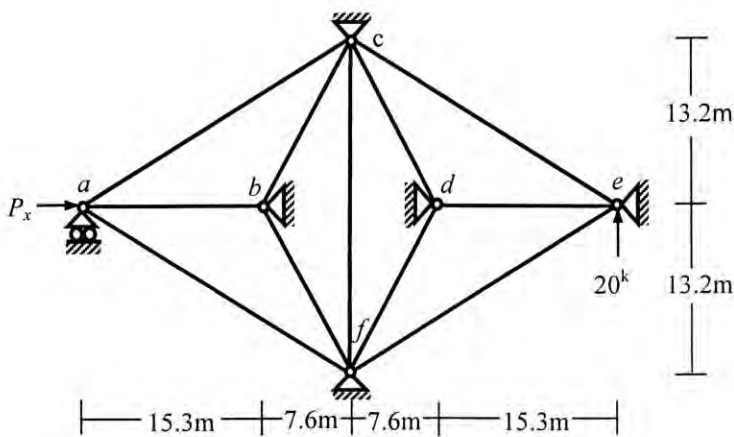

Figure 3
3. Identify zero-force members and write down the boundary conditions of the truss *abcdef* shown in **Figure 3**. Also calculate P_x if horizontal deflection at point 'a' is 2.5 mm [Given: $S_x = \text{constant} = 10^4 \text{ kN/m}$].